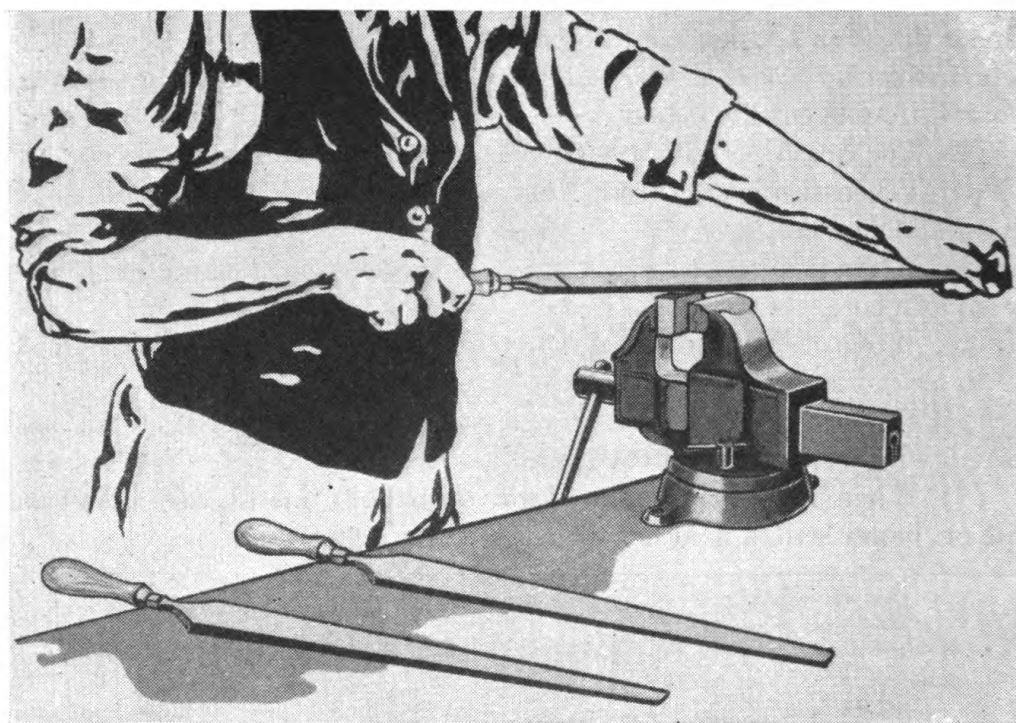
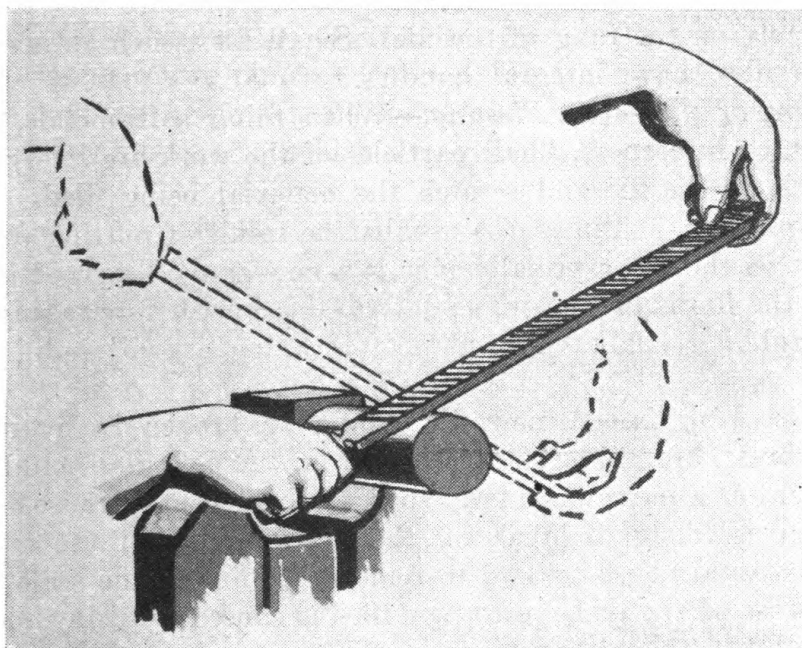

FIGURE 21.—Correct way to hold file.
FIGURE 22.—Filing round surfaces.
(8) For small work, use a short file; for medium-sized work, use an 8- or 10-inch file; for large work, use a file as large as can be controlled conveniently.
d. Using a file.—(1) The correct way to hold a file is with the handle against the palm of the right hand, thumb on top, as shown in figure 21. Hold the end of the file in the left hand with the fingers
(3) When round surfaces are filed, best results will be obtained by working as shown in figure 22, a rocking motion being used.
(4) It is bad practice to bear down hard on a new file. When the file is new, the teeth are very fine and will not stand much pressure.
(5) Hold the work firmly in a vise, with the surface to be filed projecting slightly above the vise jaws, and parallel with them, as shown in figure 21. To avoid damage to the work, detachable jaws or pieces of soft metal, such as copper or lead, can be placed between the work and the vise jaws. If the work is loose in the vise, the file will chatter, which damages its teeth.